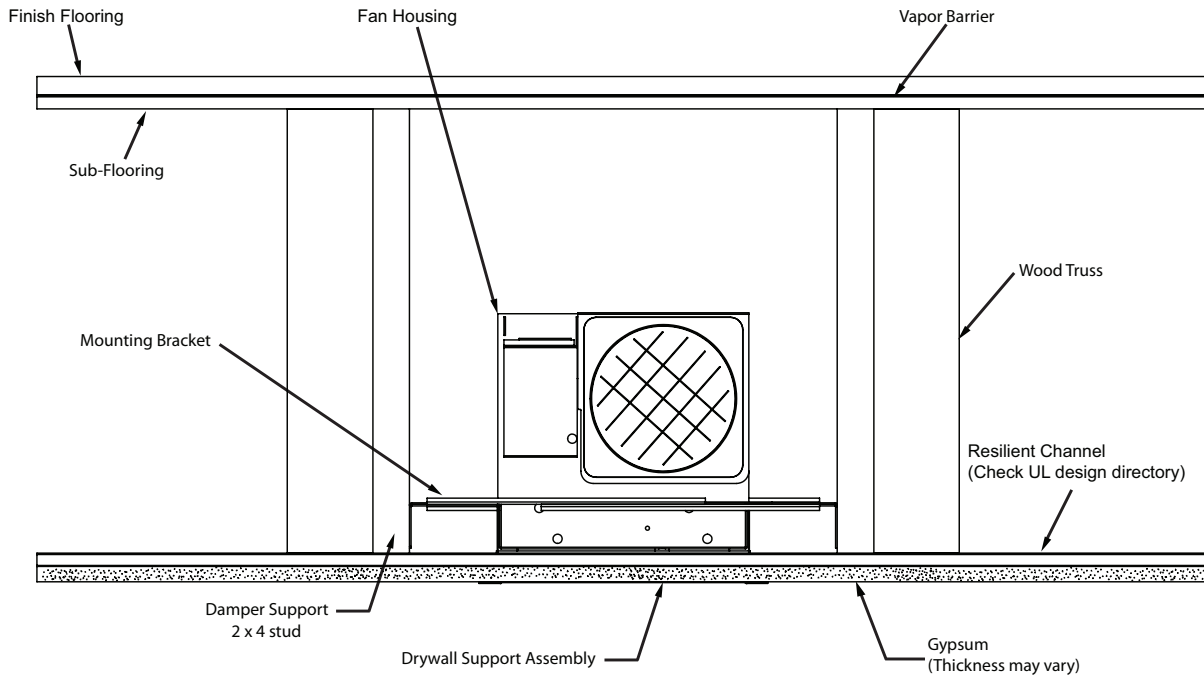
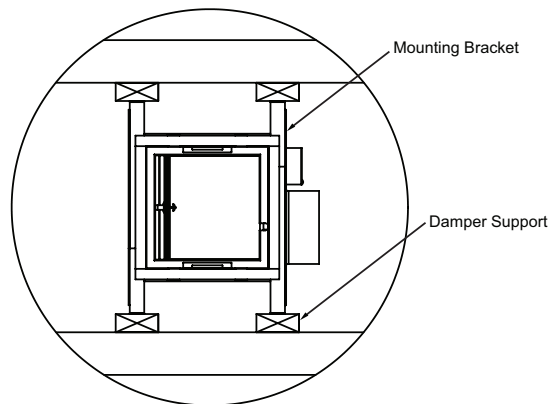

Figure 1
Figure 5
3. Prior to installing the damper/fan, damper supports need to be installed in the ceiling assembly (See Figure 1 and Figure 5). Four damper supports made from 2x4's cut to the truss height need to be installed, centered around the damper/fan location. The damper supports need to be spaced 11-9/16" (294) on center. The bottom of the damper supports must be flush with the bottom of the trusses. Each damper support must be fastened to the truss members with a minimum 2" (51) long #8 wood screws at a minimum of two places.